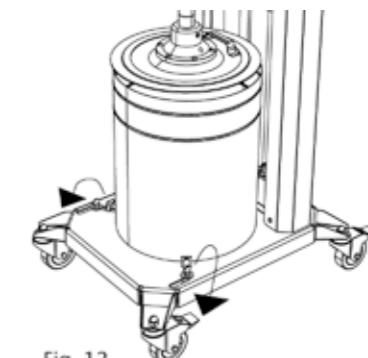

Fig. 12
- Open the pail fasteners. (fig. 12).
- Close the pail fasteners (fig. 12).
- Turn the lifter control (pos.1) to the "off" position. The pump and the follower plate will approximate to the pail.
- Turn the lifter control (pos. 1) to the "down" position.
- When the grease is pushed out from the follower plate air bleeder opening, switch lifter control (pos. 1) to the "off" position.
3. Open the pail fasteners (fig. 12).